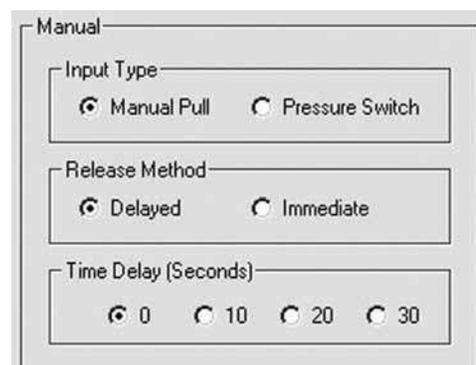

FIGURE 47
- Manual - Input Programming:** The Manual Input circuit may be programmed for either electric Manual Pull or Pressure Switch feedback (see Figure 47).